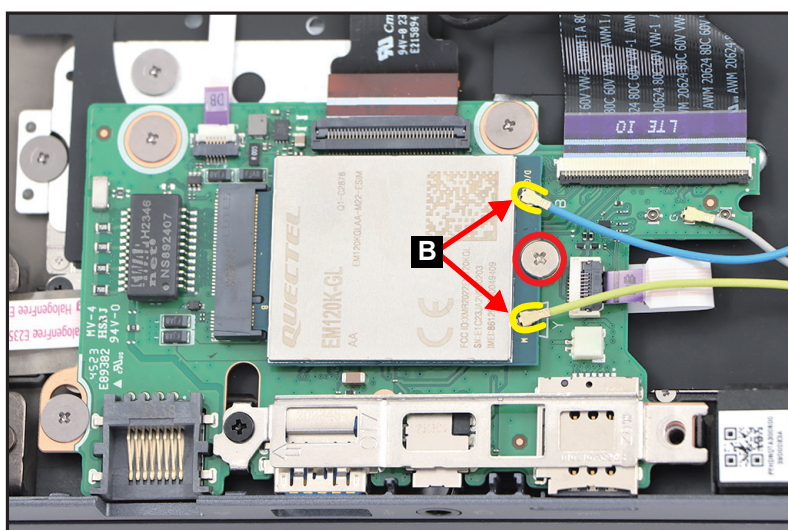

Figure 1-20. LTE Module Removal
2. Disconnect the LTE antennas cables from the LTE module connectors (B) (Figure 1-20).
3. Remove one (1) screw securing the LTE module (Figure 1-20).